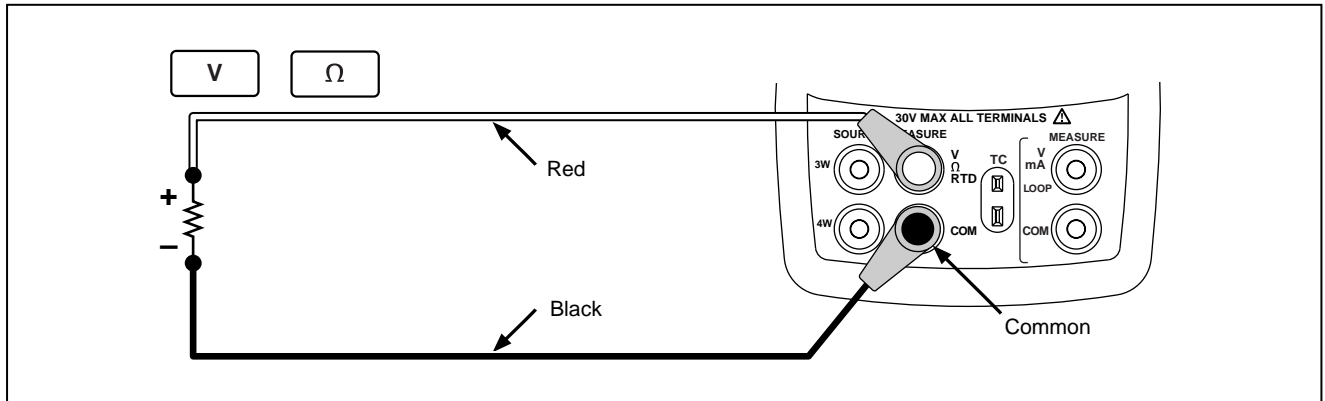

Figure 11. Electrical Sourcing Connections
1. Connect the test leads as shown in Figure 11, depending on the source function.